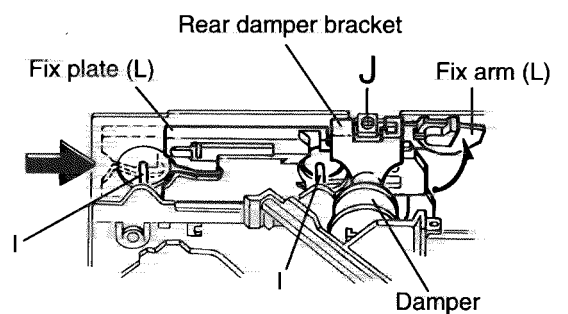

Fig.17
2. Raise the both sides fix arms and move the fix plates in the direction of the arrow to place the four shafts I as shown in Fig.17 and 18.